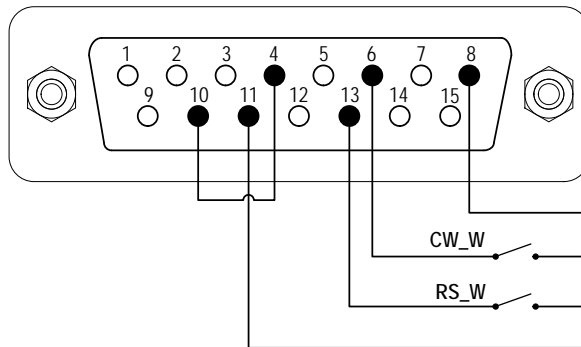
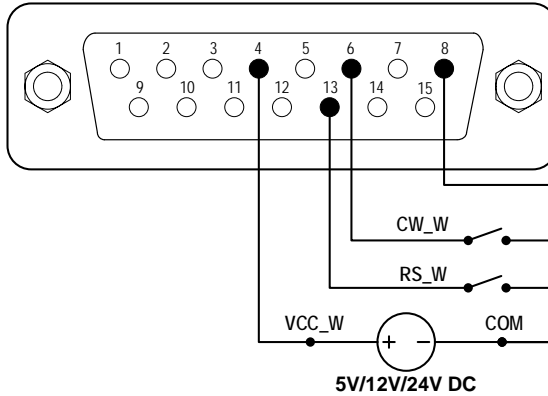

Figure 17. Logic Level 2 Control with Internal 12V Power Source
Figure 18. Logic Level 2 Control with External Power Source
- 1) Turn off the pump. Wire the DB15 connector as shown in Figure 17 or Figure 18, and connect it to the DB15 port on the rear of the pump.